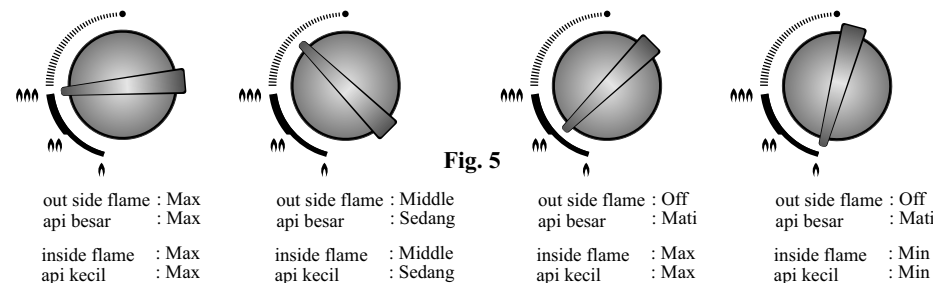

Fig. 5
4. Flame can be controlled at four steps as following. (Fig. 5)